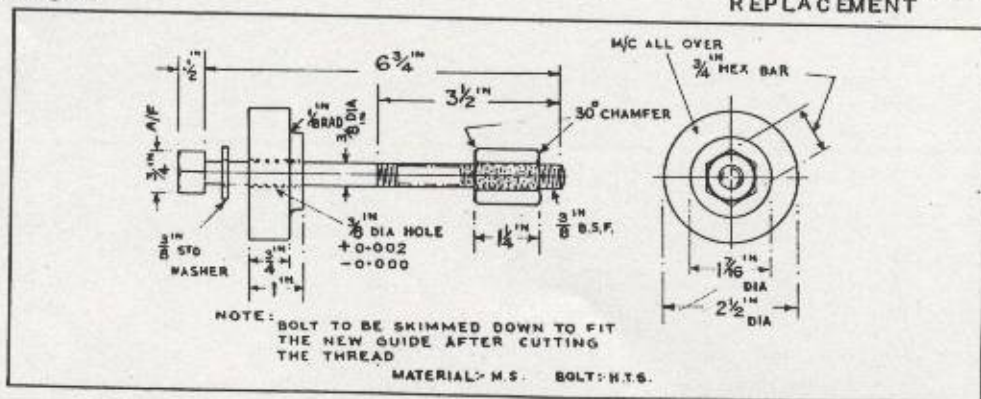

FIG. 5 - TOOL, REPLACING, EXHAUST VALVE GUIDES (LOCAL MANUFACTURE)
12. New guides will be pressed in with the tool shown in detail at Fig. 5. This is made of mild steel and manufactured locally.